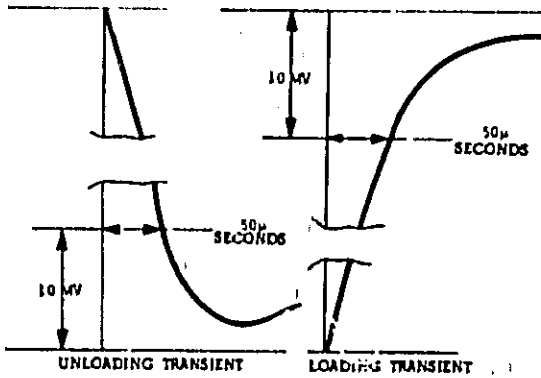

Figure 5-9. Transient Response, Waveforms
f. Adjust 25K potentiometer until a stable display is obtained on oscilloscope. Waveform should be within the tolerances shown in Figure 5-9 (output should return to within 10mV of original value in less than 50 microseconds).